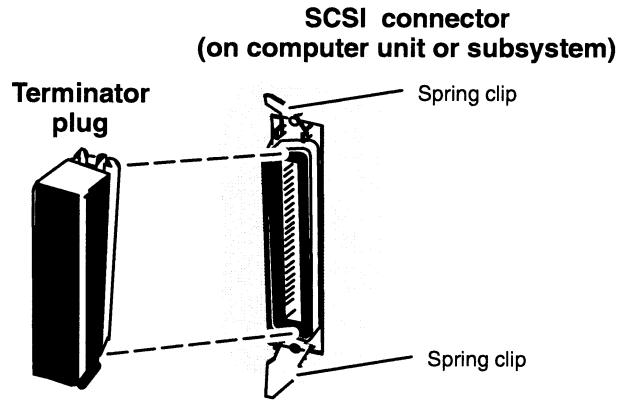

Figure 7-19 Unplugging and Plugging in the SCSI Bus Terminator Plug
2. Release the spring clips on each side of the terminator plug as shown in Figure 7-19, and unplug the terminator plug from the SCSI bus connector.